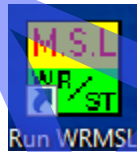

Figure 1. WRMSL desktop icon.
2. Double click on the **Run WRMSL** icon on the desktop (Fig. 1).